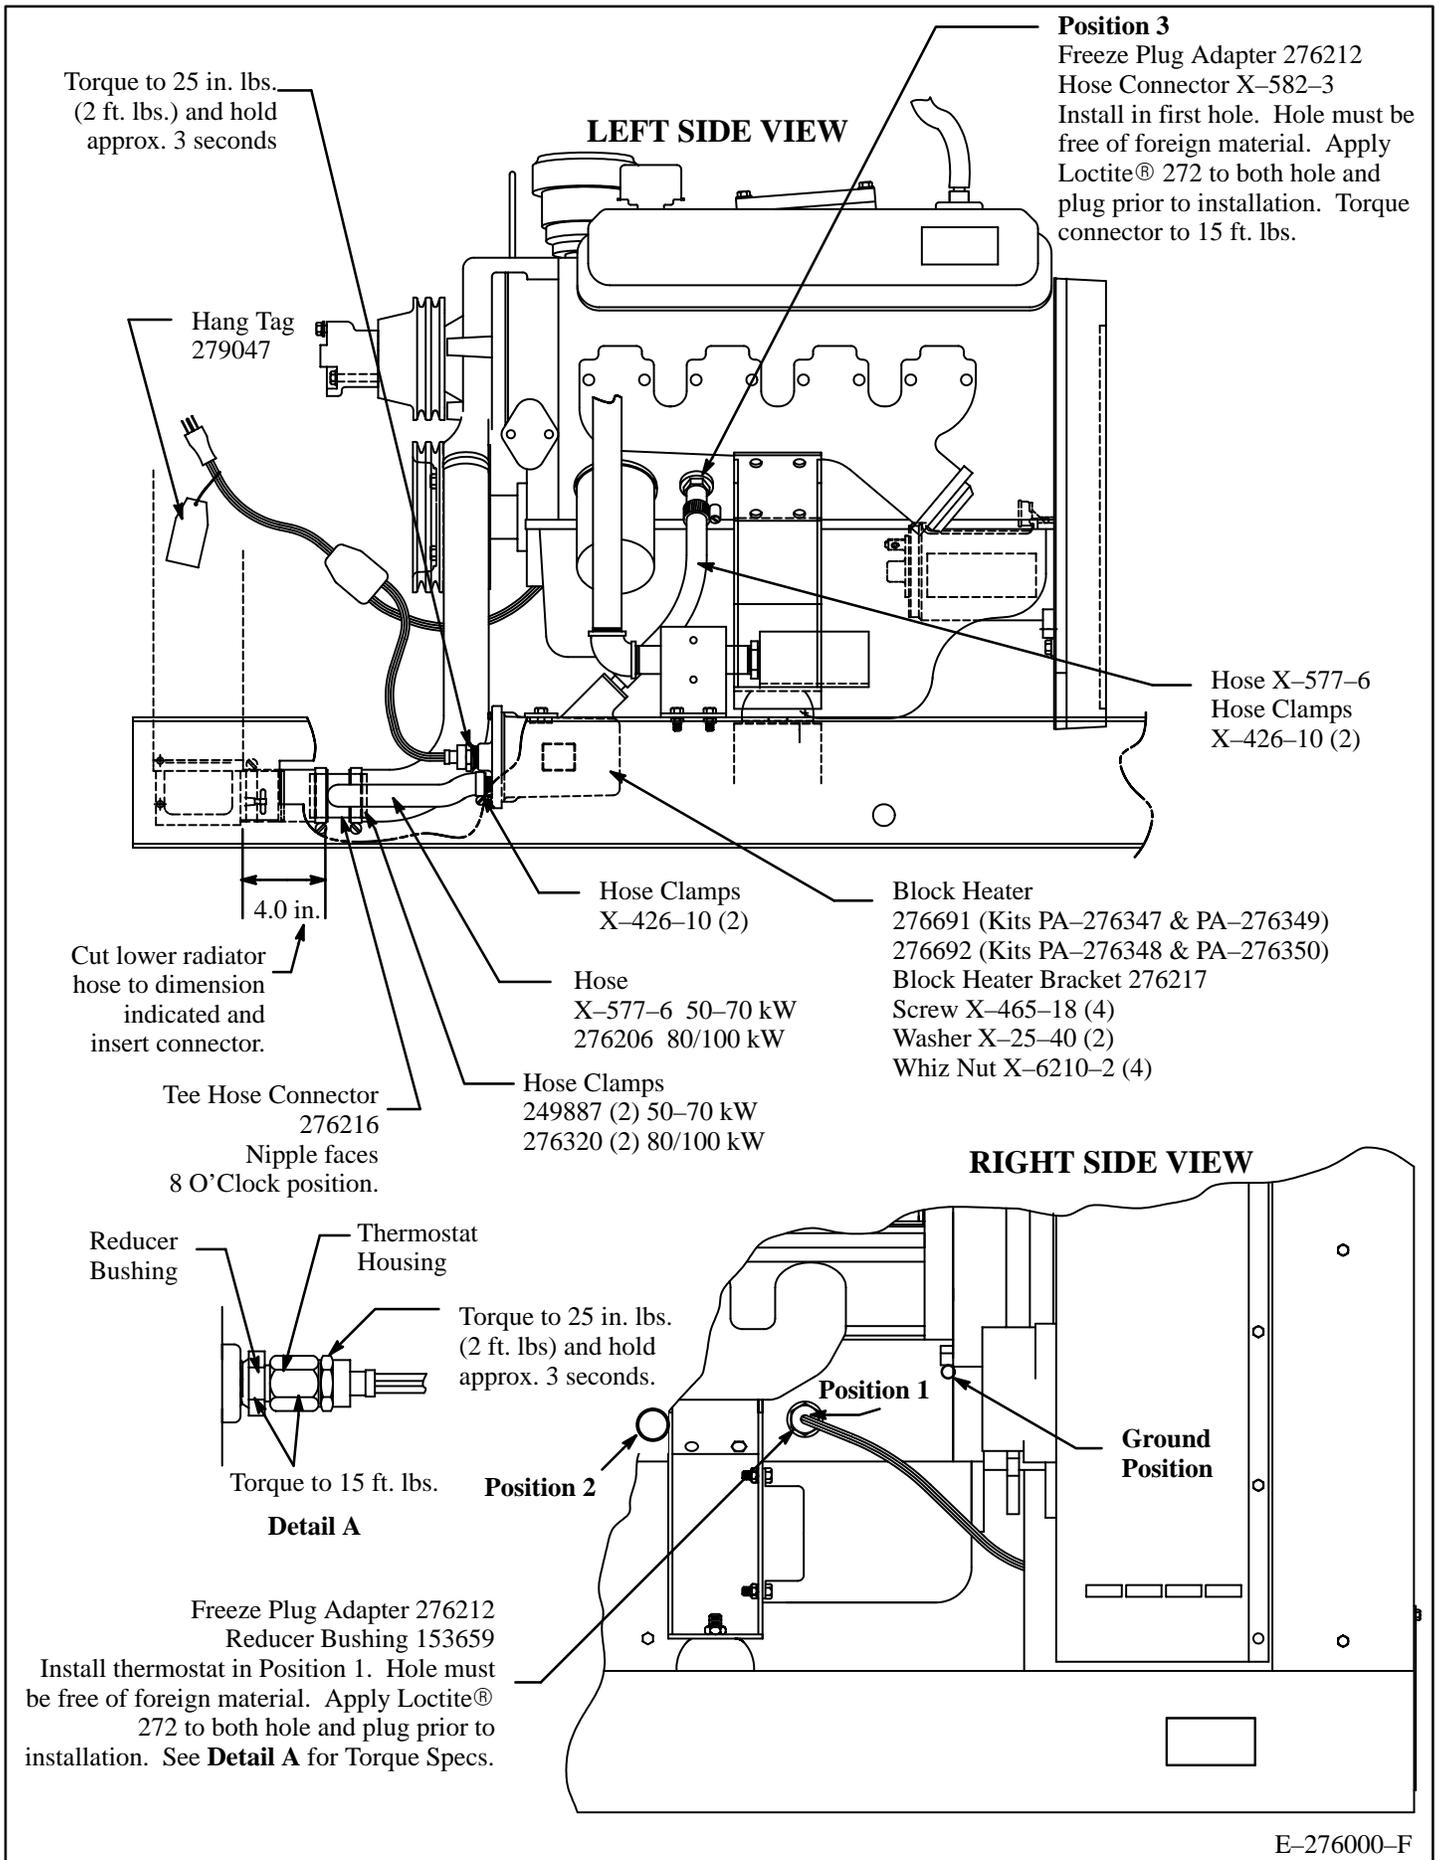

Figure 2. Block Heater Installation (Tank Type)
If the unit is equipped with a Low Water Temperature Switch located at position 1, (Figure 2), Skip Step 4 and proceed to Step 5. If the unit is not equipped with a Low Water Temperature Switch located at position 1, follow Step 4 and proceed to Step 6.
4. With components clean and dry, apply Loctite® threadlocker 272 (red) or equivalent to freeze plug adapter 276212 and hole. Install freeze plug adapter using hardwood dowel and hammer at position 1 (see Figure 2, Right Side View). Drive freeze plug adapter into engine block so that it is flush with outside surface of block. Do NOT drive freeze plug adapter beyond that point or it may be forced into the water jacket.
5. If installing block heater service kit on a unit with the *Low Water Temperature (L.W.T.) Switch* feature located at position 1 (Figure 2): Remove the L.W.T. switch and reducer bushing but leave the freeze plug adapter in place. Install reducer bushing 153659 and the new thermostat at position 1 (see Figure 2, Right Side View for torque specifications.)
With components clean and dry, apply Loctite® threadlocker 272 (red) or equivalent to freeze plug adapter 276212 (supplied in kit) and hole at position 2 (Figure 2.) Install freeze plug adapter using hardwood dowel and hammer at position 2 (Figure 2.) Drive freeze plug adapter into engine block so that it is flush with outside surface of block. Do NOT drive freeze plug adapter beyond that point or it may be forced into the water jacket. Apply pipe sealant to the reducer bushing (which was removed from position 1), and install into freeze plug adapter at position 2 (see Figure 2) and torque to 15 ft. lbs. Relocate L.W.T. switch at position 2 and torque to 15 ft. lbs. Pull lead 35A back through harness and connect to L.W.T. switch. Remove lead N from harness disconnecting at ground position. Add new lead SWON-1622-2218 to L.W.T. switch and connect the other end to the ground position (route lead away from sharp edges.)
6. With components clean and dry, apply Loctite® threadlocker 272 (red) or equivalent to freeze plug adapter 276212 and hole at position 3 (see Figure 2, Left Side View). Install freeze plug adapter using hardwood dowel and hammer. Drive freeze plug adapter into engine block so that it is flush with outside surface of block. Do NOT drive freeze plug adapter beyond that point or it may be forced into the water jacket.
Apply pipe sealant to hose connector X-582-3 and install into freeze plug adapter on left side of engine. See Figure 2. Torque hose connector to 15 ft. lbs. (20 Nm).
** Item used only if installing kit on a unit with a Low Water Temperature Switch Located at Position 1, Figure 2.